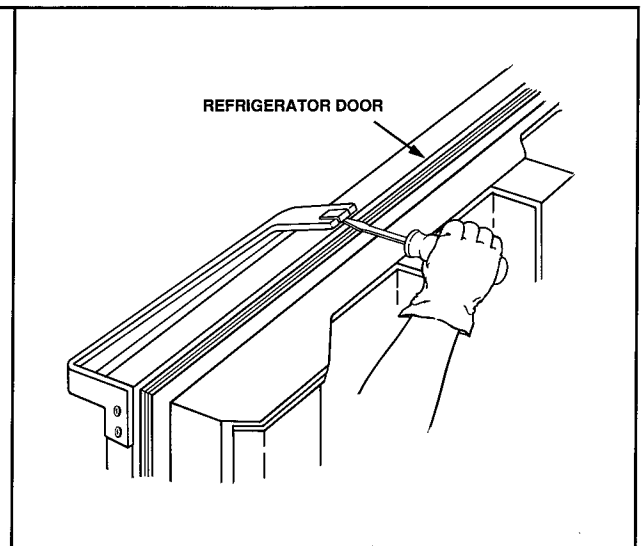

Figure 67
- b. Use phillips screwdriver to remove all door handle screws. See Figure 67.